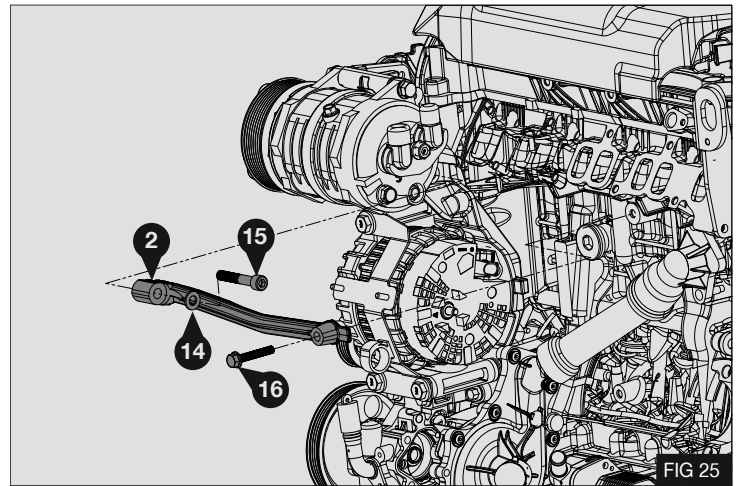

FIG 25
7. Install the rear support (2) using 1 x M8x50 Bolt (16) and 1x M10x60 Cap head bolt (15) with flat washer (14). - Fig 25
9. Assemble the pulley (46) onto Adjuster plate (12) with M8 x 30 bolt (50) Spacer (48) and Pulley nut (49). - Fig 25
10. Fit adjuster base (4) with plate (12) to bracket (3) secure using M10 x 60 Cap head bolt (15) and Washer (14). During this operation align dowel in adjuster base (4) with the corresponding hole in bracket (3). Install M8 x 30 bolt (50) with M8 washer (47) through the slot in adjuster plate (12) and into adjuster base (4). - Fig 25